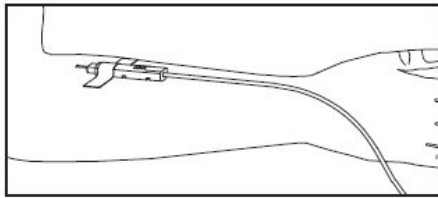

Figure 1
- When good blood flow is established, slide the DONORCARE™ Needle Guard over the needle hub into the engaged position. Leave the front third of the needle hub exposed for access. Stabilize the front of the needle guard to arm with tape. (see Figure 1)